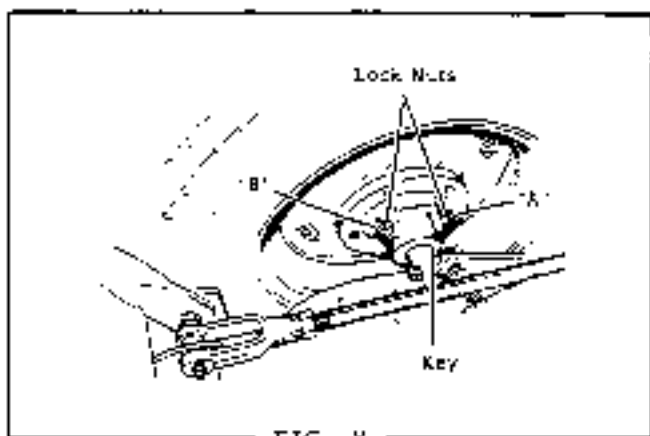

FIG. 8
10. Place the key in the slot of the axle shaft and mount the L.H. wheel and hub in place over the key. Tighten the setscrew "B" into the setscrew hole on the axle shaft. See Fig. 8. Tighten the setscrew "A" and lock both setscrews with the lock nuts. Tighten securely.